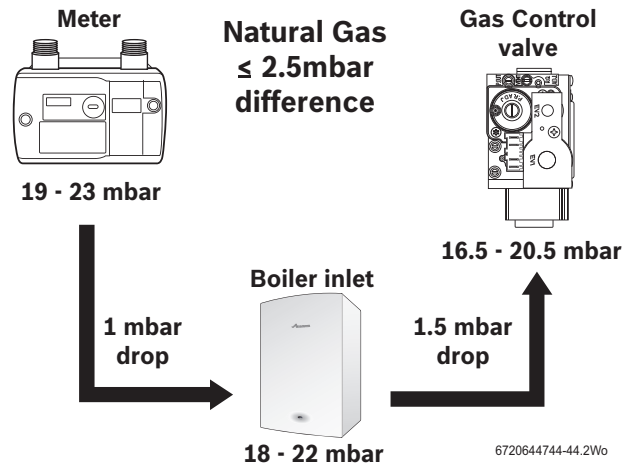
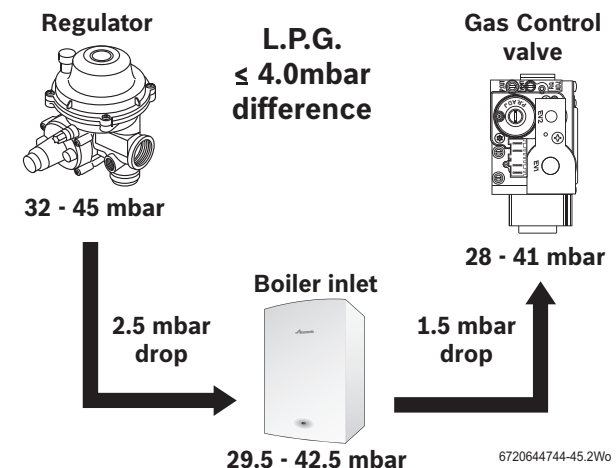

Fig. 43 Natural gas pressures
Fig. 44 L.P.G. pressures
- ▶ Slacken the screw in the inlet pressure test point (1) and connect a manometer.
- ▶ Check the gas supply working pressure at the gas valve conforms to values shown in Fig. 43 or Fig. 44 .